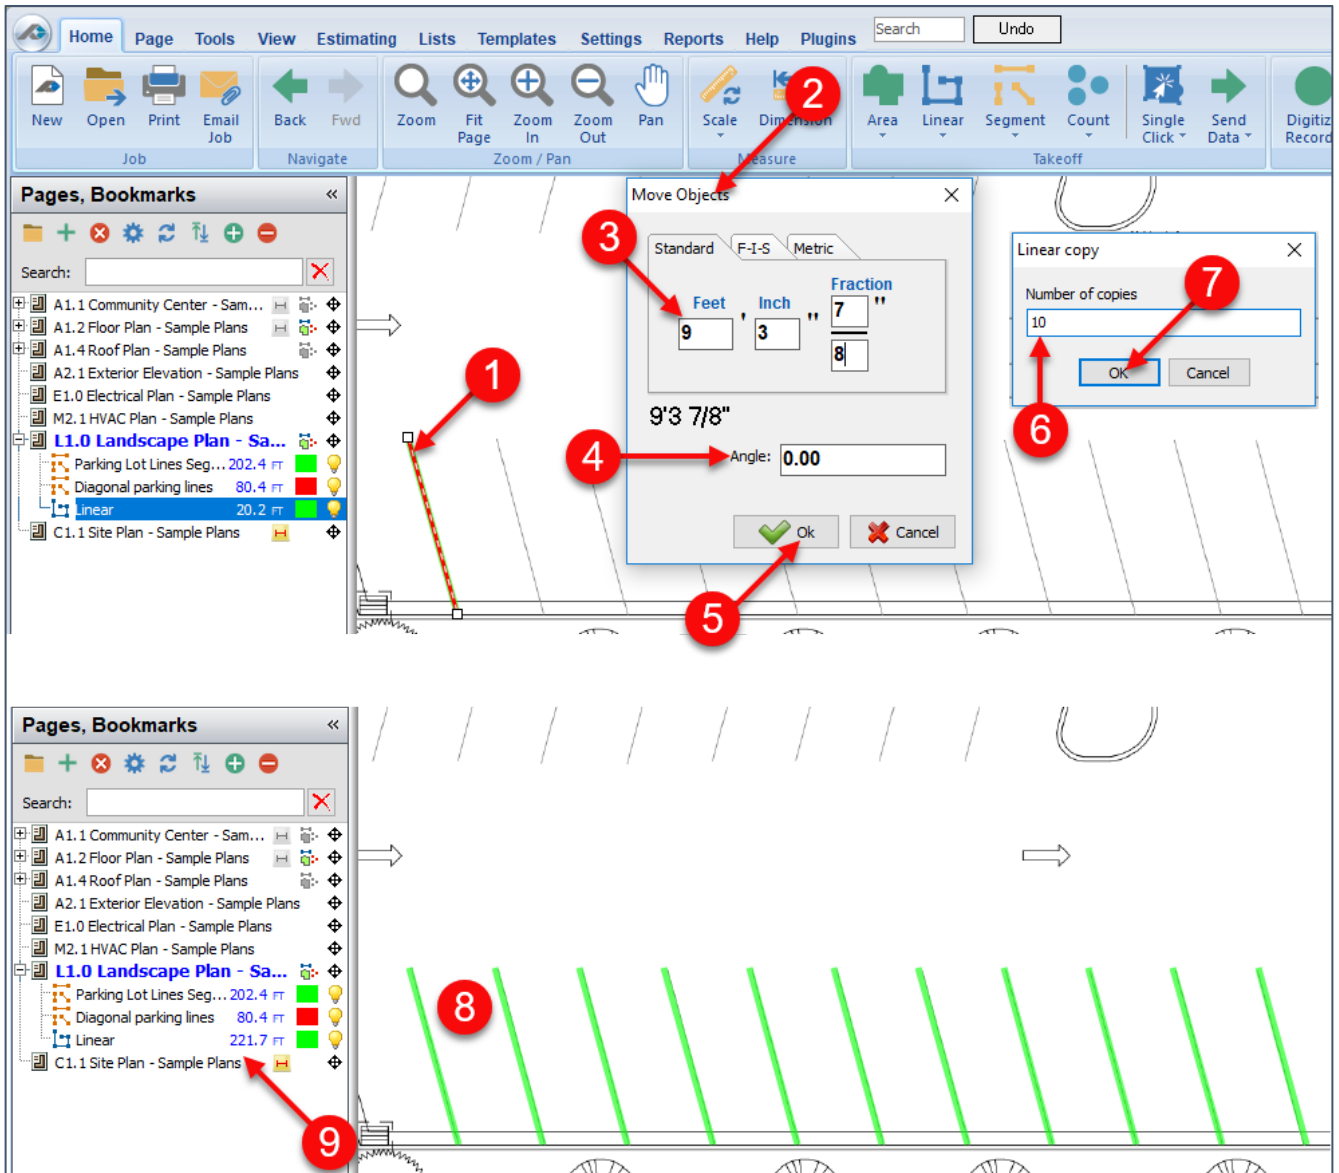

Figure 17-A
1. Select the takeoff item (or items) to be copied (in this case a linear parking diagonal line) (Fig. 17-A).
6. In the **Linear Copy** window, enter the number of copies of the item (10).